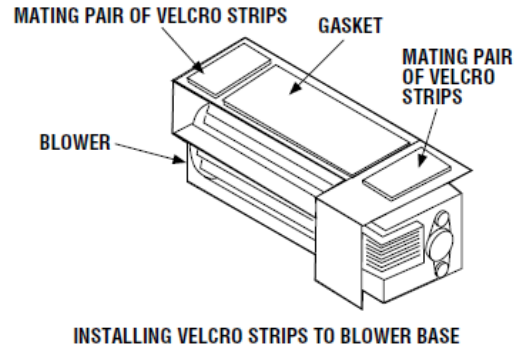

Figure 5
**Step 6. D-Wood-Burning Fireplaces (other than vent-free)** – Place the two mating halves of each of the two Velcro sections together. Peel the backing from one side of both of the mating pairs and stick the pairs to the back of the blower housing as shown in **Figure 5**.